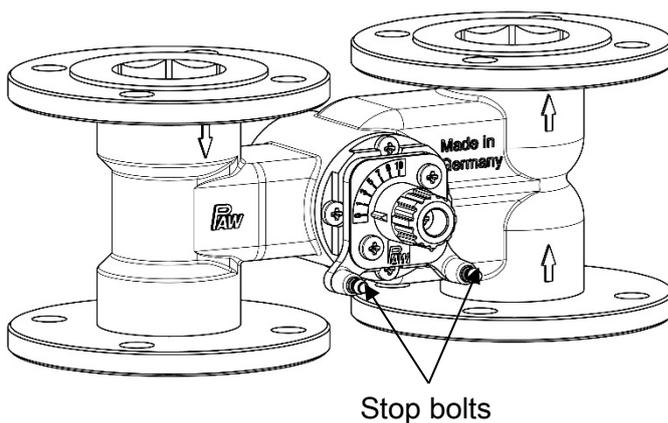

Fig. 5
4. Put the actuator on the adjusting knob of the mixing valve and the two stop bolts. The actuator must be mounted according to figure 5.